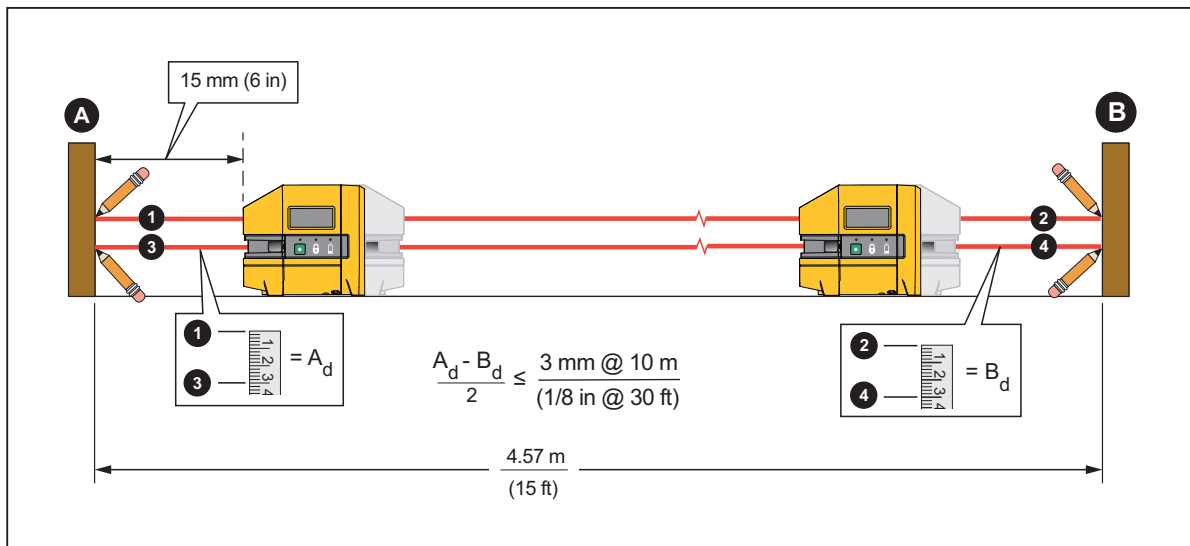

Figure 7. Level Accuracy
1. Find a horizontal site that is almost level, preferably a concrete slab, that is ≥ 4.57 m (15 ft) wide with two opposing walls to use as targets. You can also use scrap wood as targets. See Figure 7.